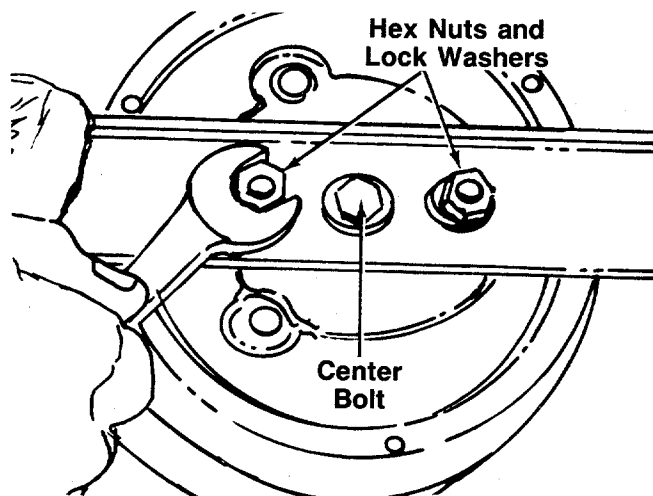

FIGURE 16.
To remove the cutting blade for sharpening or replacement, remove the two hex nuts and lock washers which hold the blade to the blade brake/clutch. Protect hands by using heavy gloves or a rag to grasp the cutting blade. See figure 16.
2. Tip the mower on its left side. Remove the two hex nuts and lock washers on the blade. Remove the blade from the blade brake/clutch. Refer to figure 16.
9. Tip the mower on its side. Remove the blade by removing two hex nuts and lock washers. Refer to figure 16.